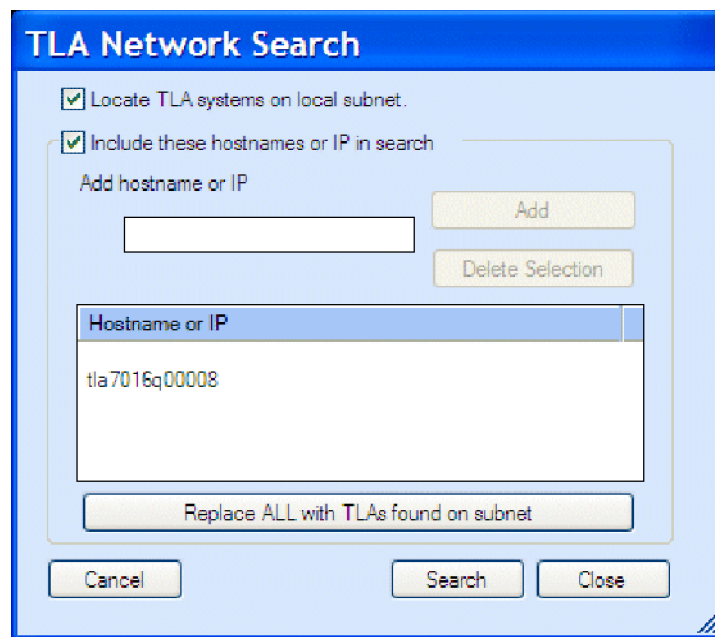

Figure 21: TLA Network Search dialog box
- a. Click  (Search icon) to open the TLA Network Search dialog box. (See Figure 21.)